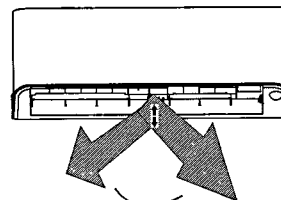

Fig. 15 —Right-Left Louver Positions
1. Press **SWING ↔** (right-left airflow) on the remote control once to activate the louver. Every time you press **SWING ↔** (right-left airflow), the louver adjusts by 6 degrees. Press **SWING ↔** until the preferred direction is reached (see Fig. 15).